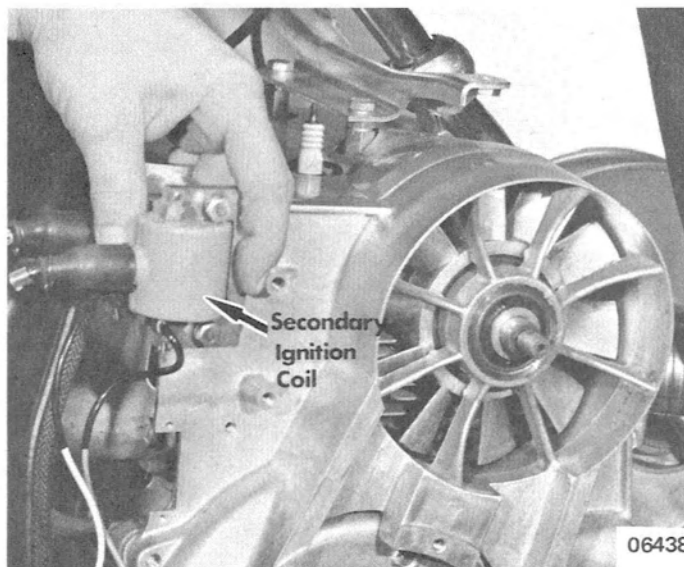

Figure 2. Secondary Ignition Coils Removed
10. Remove secondary ignition coils as an assembly. (Figure 2)